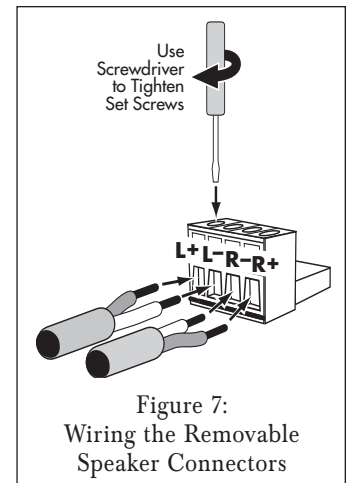

Figure 7:
5. After making sure that there are no stray wires touching each other, tighten the set screws to secure the wires, as shown in *Figure 7*.